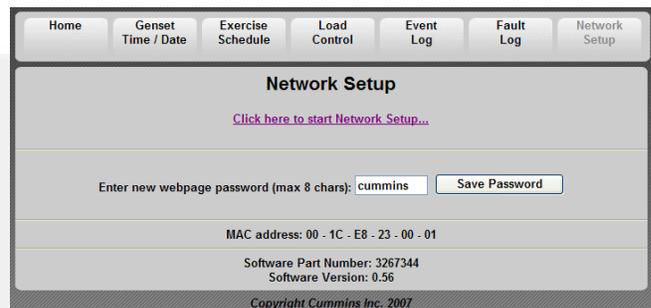

FIGURE C-4. NETWORK SETUP SCREEN
4. Change the password and click **Save Password** (Figure C-4)1. Add this *Password* to the Information Sheet located on page B-5 of the Operator Manual or page C-5 of the Installation Manual under "Internet Access to Generator Set-up Information."
5. Click **Click here to start Network Setup** (Figure C-4).